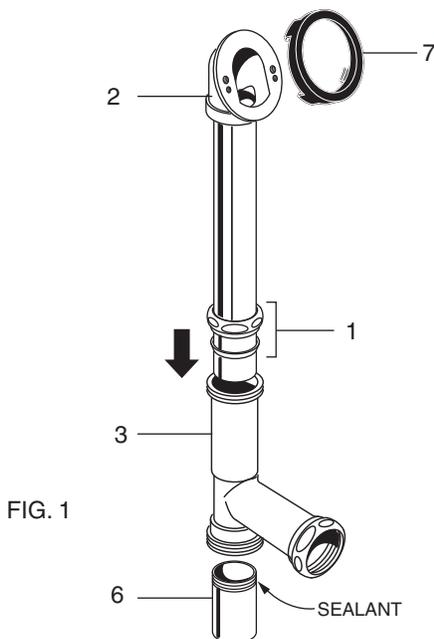

FIG. 1
- Loosen SLIP JOINT NUT & SEAL (1) and install onto OVERFLOW TUBE (2). Install OVERFLOW TUBE ASSEMBLY (2) into the appropriate leg of the DRAIN TEE (3). Apply sealant to threads of TAILPIECE (6) and thread into DRAIN TEE (3). Install OVERFLOW GASKET (7) to OVERFLOW TUBE ASSEMBLY (2). (Adjust OVERFLOW GASKET (7) to cuture of tub. FIG. 1.
- Remove the UPPER LINK (1) from the SPRING CLIP (2) and slide the pointed end through the small hole in the CAM (3). Fig. 1.